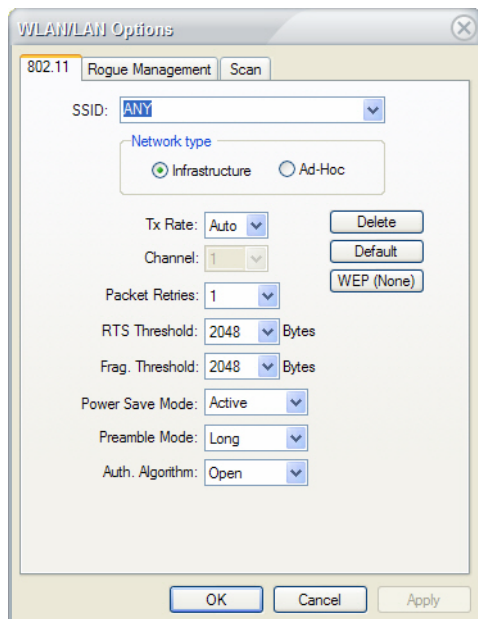

Figure 12-22: Configuring 802.11 settings
- 1) From the AirMagnet Policy Management window, click the Options... button. The WLAN/LAN Option box appears, with the 802.11 tab selected by default. See Figure 12-22.